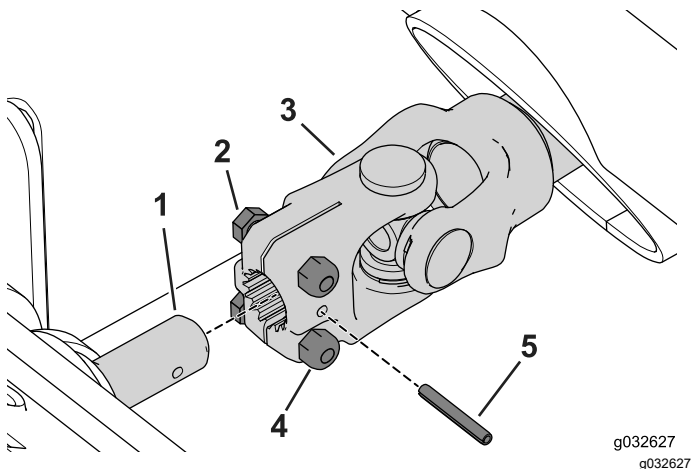

Figure 102
2. Remove the roll pin and loosen the 2 bolts securing the drive shaft to the gearbox shaft (Figure 102).